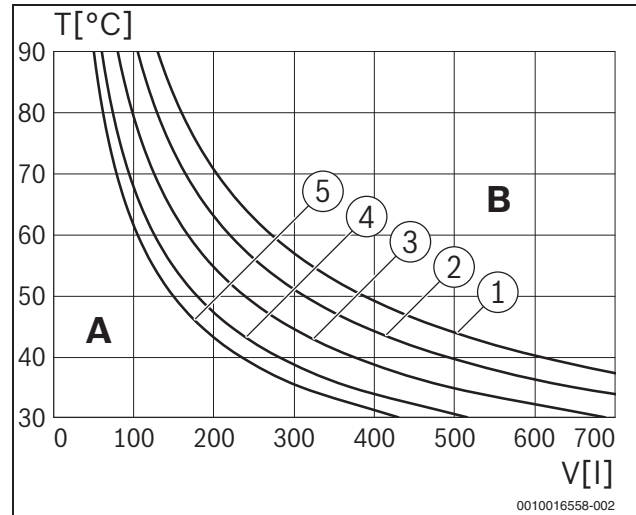

Fig. 5 Curves for the expansion vessel
- ▶ Calculate the total system volume (litres). Plotting a line vertically on the chart (→ Fig. 5).
- ▶ Determine the central heating maximum operating flow temperature (73 °C for condensing). Plot a line horizontally on the chart (→ Fig. 5).